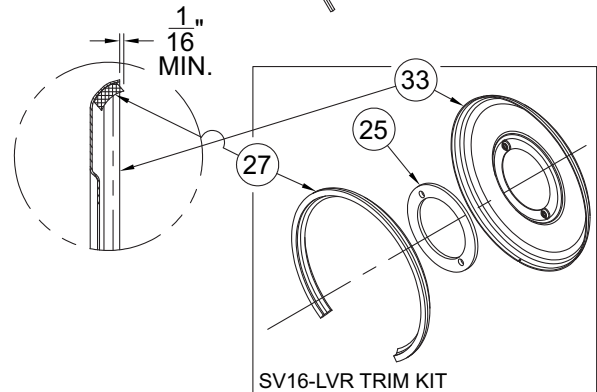

FIGURE 13
- Attach **escutcheon gasket 27** and **trim plate center gasket 25** onto back of **lever handle escutcheon 32** by removing adhesive protection film and attaching as shown **Figure 13**.